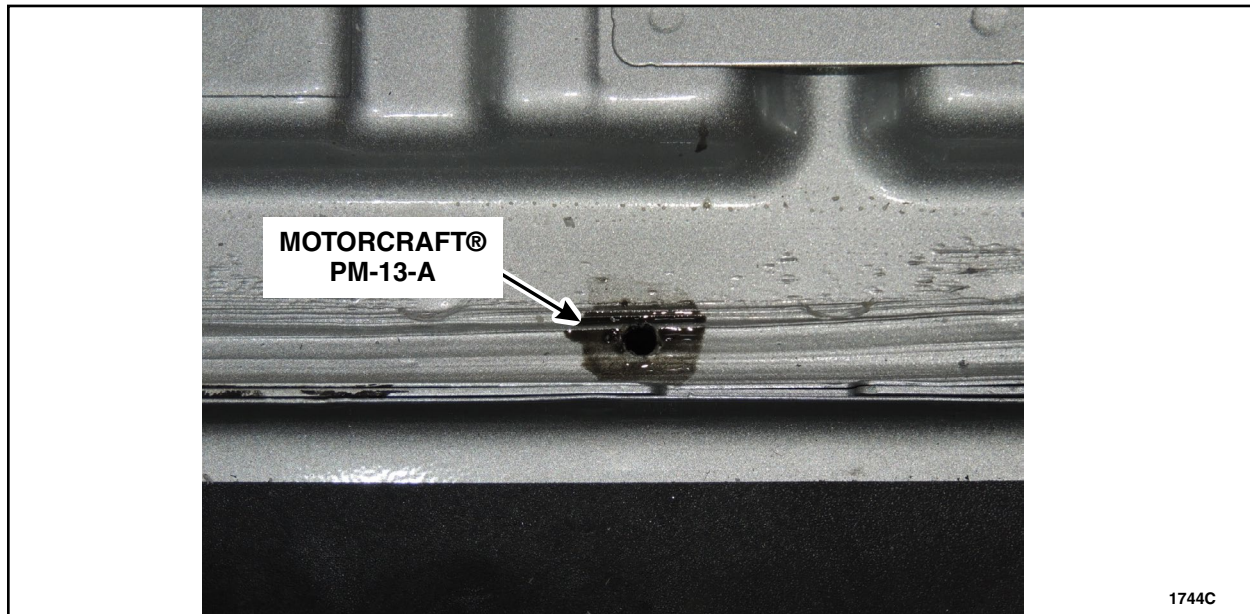

FIGURE 5
- Using a brush or cotton swab, apply two coats of Motorcraft® PM-13-A Anti-Corrosion Coating to the drilled hole. See Figure 5.